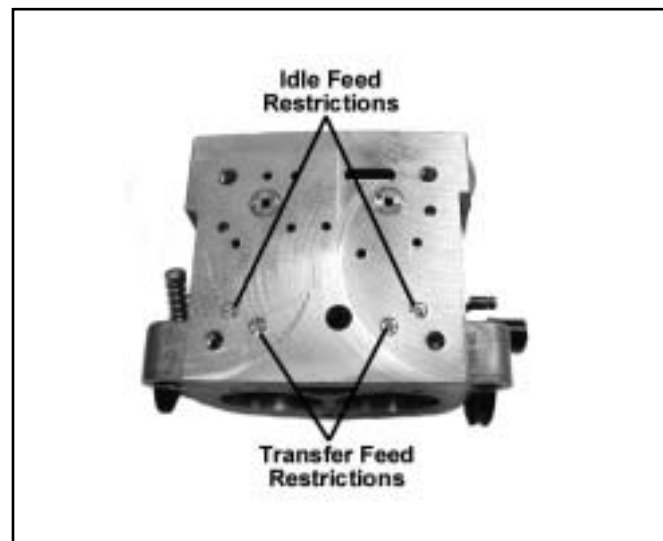

Figure 22. Metering Block
See Figure 22. There are two brass feed restrictions located on the bottom surface of the carburetor main body, above the metering block. The idle feed restrictions are the two outer feeds, located on this surface.
Refer to Figure 22. The transfer feeds (TF) are the slow speed jets located on the bottom surface of the carburetor main body, above the metering block. They are the two inner feeds. The Transfer Feeds affect off idle and cruise operation up to approximately 70 mph.